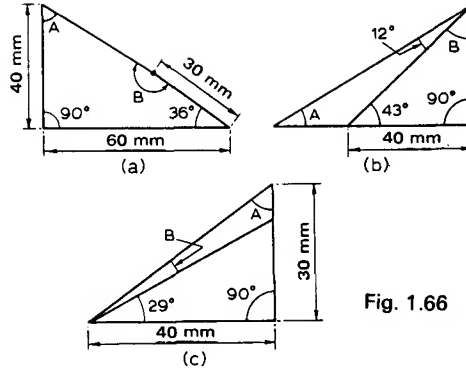

Fig. 1.66
- Using a protractor and rule draw the diagrams shown in Fig. 1.66. In each case measure the angles A and B .